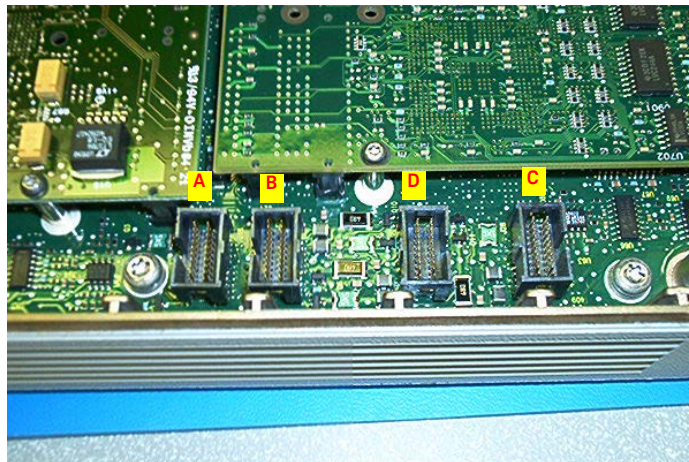

Figure 5-16
- Sensor flex connections (Figure 5-16):